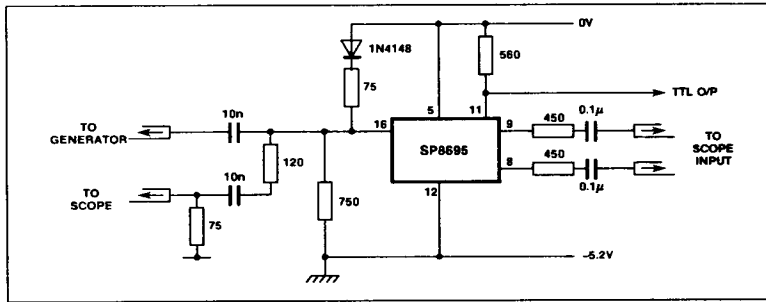

Fig. 6 Test circuit
1. The clock inputs can be driven from ECL II, III and 10K. The input reference voltage (-3.8V at 25°C) is compatible with ECL II, III and 10K over the specified temperature range. The inputs can also be capacitively coupled by addition of external bias as shown in Fig. 6. Each input has an internal pull-down resistor of 10k, and unused inputs can therefore be left open circuit. They should be bypassed to RF where maximum noise immunity is required.
6. The TTL/CMOS output has a free collector and the high state output voltage will depend on the supply that the collector load is taken to. This should not exceed 12V. The rise and fall time of the open collector output waveform is directly proportional to load capacitance and load resistance value. Therefore load capacitance should be kept to a minimum and the load resistor kept to a minimum compatible with system power requirements. In the test configuration of Fig. 6 the output rise time is approximately 10ns and fall time is 7ns typically.